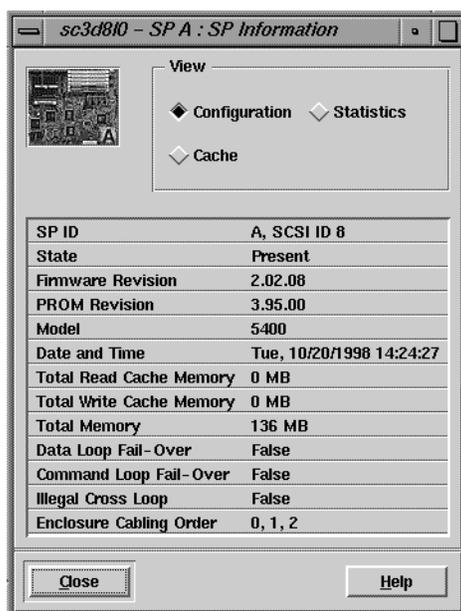

Figure 4-11 SP Information Window: Configuration Information
The SP Information window displays configuration, statistics, or cache information. When you open the window, it displays SP configuration information, as shown in Figure 4-11.
3. In the Array Configuration window, click the SP A or SP B information button in the array toolbar. Alternatively, choose SP Information from the Array menu, and select the SP for which you want information. The SP Information window opens and displays SP configuration information, as shown in Figure 4-11.
To display SP configuration information, click the top radio button in the View area (upper right) of the SP Information window, if necessary. This information is displayed when you first open the SP Information window; see Figure 4-11 for an example.